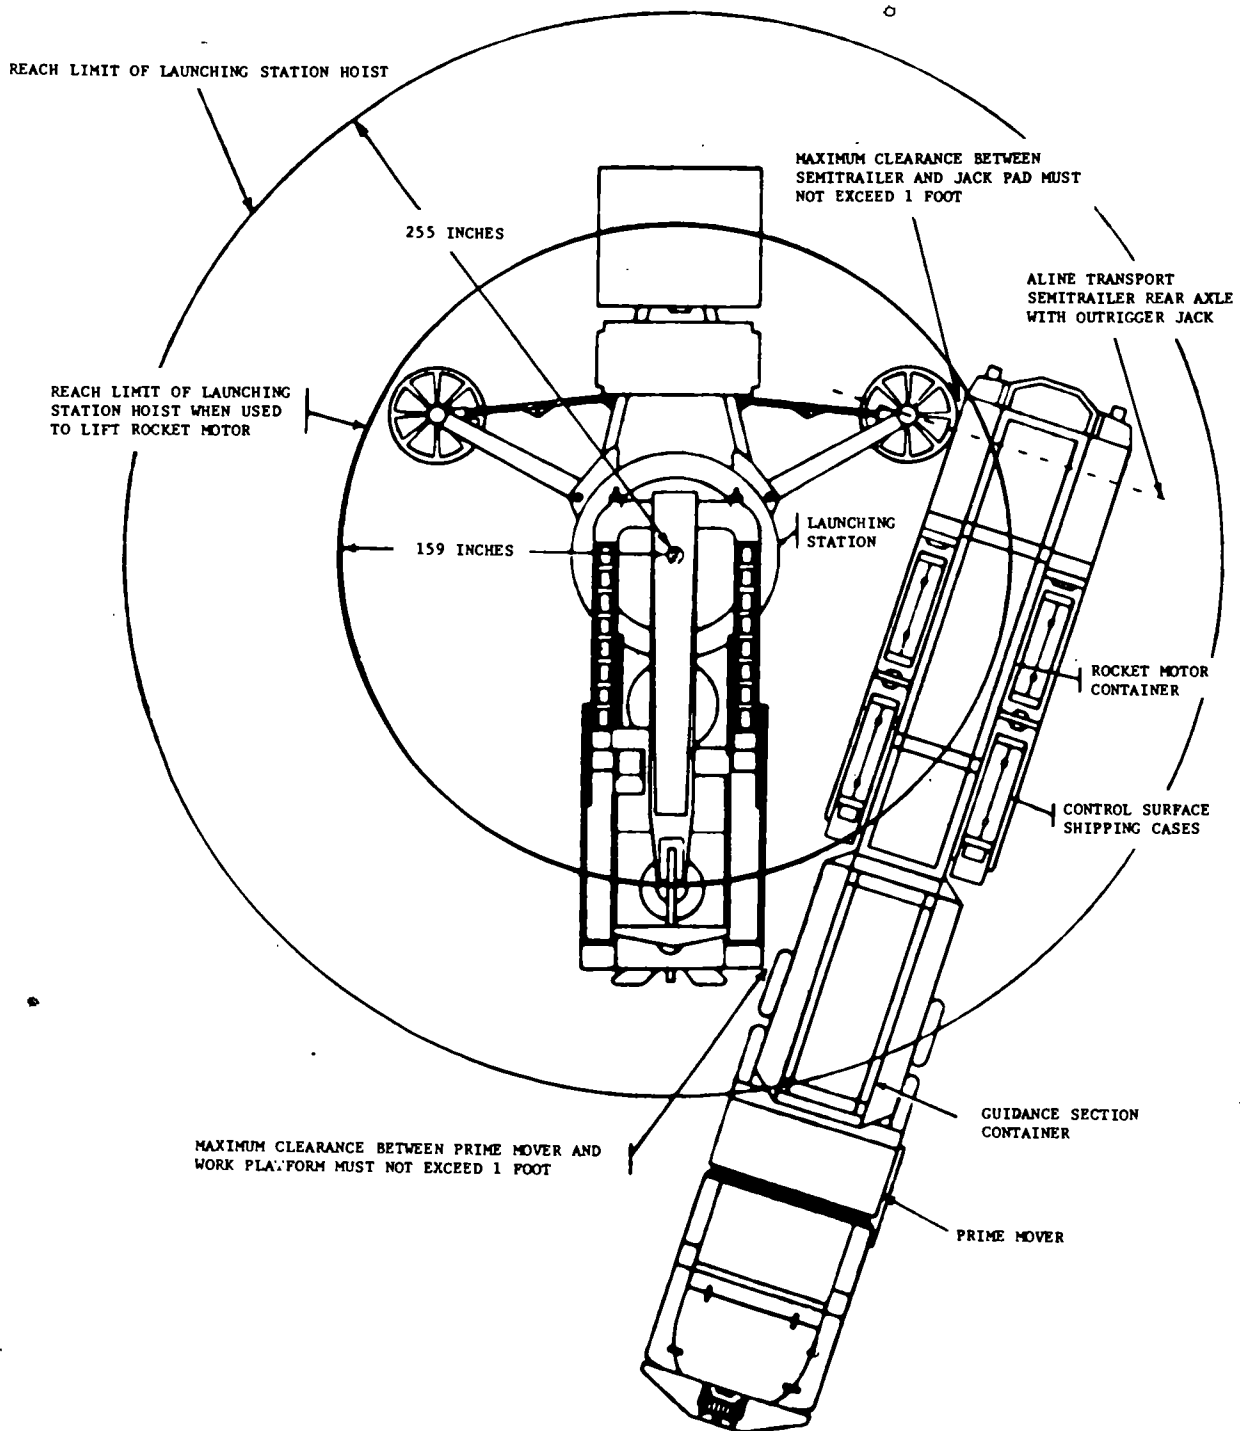

Figure 2. Positioning the rocket motor and guidance section transporter.
the firing position is a cleared area 15 meters wide (perpendicular to the launching station centerline) and 18 meters long (parallel to the launching station centerline). This cleared area includes space on the right and left of the launching station for the missile section transporters, Boom Traverse and Missile Orientation. This is illustrated in figures 2 and 3. This area should include at least one good approach and exit. If the area has no exit, the width should be doubled to allow the transporters to turn around.
a. After the launching station has been emplaced and leveled, the missile section transporters are brought forward and positioned as shown in figures 2 and 3. The missile sections
a. A method of positioning the rocket motor and guidance section transporter is shown in figure 2.